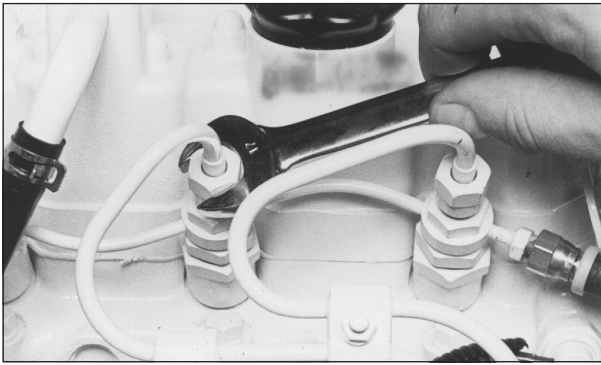

Figure 10: Remove delivery line flare nuts.
3. Loosen the lock nut and adjust the clearance between the rocker arm and valve guide of both the intake and exhaust valves with the adjustment screw (Figure 10). Clearance on both intake and exhaust valves should be 0.008 in. (0.2 mm).